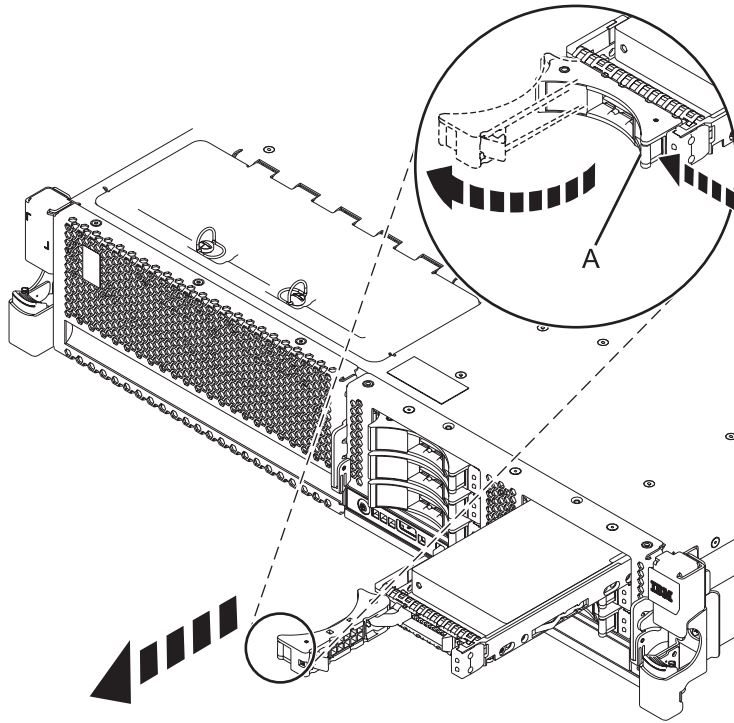

Figure 37. Removing a disk drive from the system
1. On the system, unlock the drive handle by squeezing it and pulling it out toward you, as shown in Figure 37 on page 55.